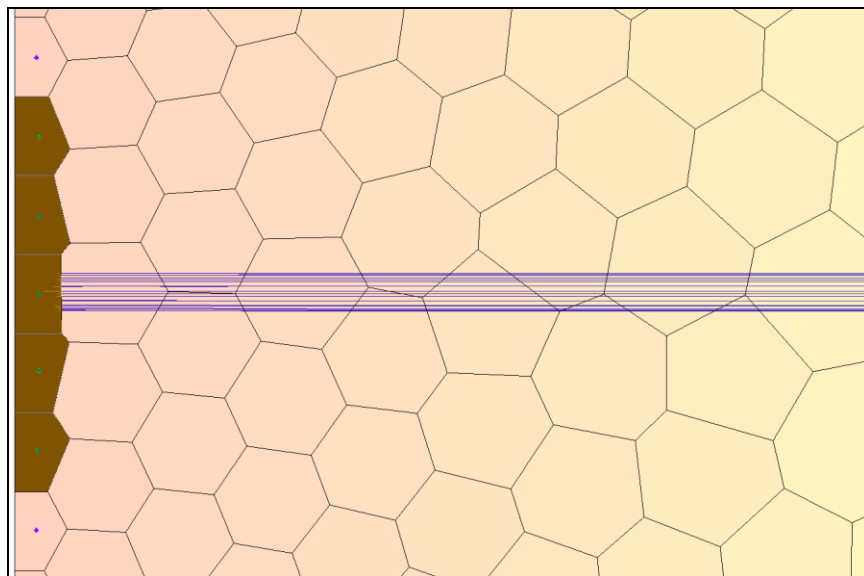

Figure 7 Selected cells on the left side of the UGrid
2. Using the **Select Cells**  tool, drag a box that selects the cells on the left side of the grid in the area where the existing pathlines are, including two cells above and below the cells the pathlines touch (Figure 7).